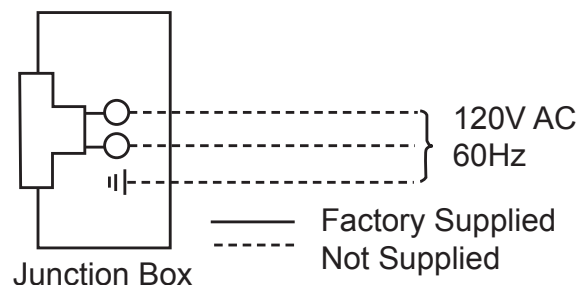

Figure 6.2 - Junction Box Wiring Diagram
2. The junction box cover has a Romex style strain relief connector located in the Owner's Manual. After connecting the wires, route the wire leads through this connector. Refer to the wiring diagram in Figure 6.2.